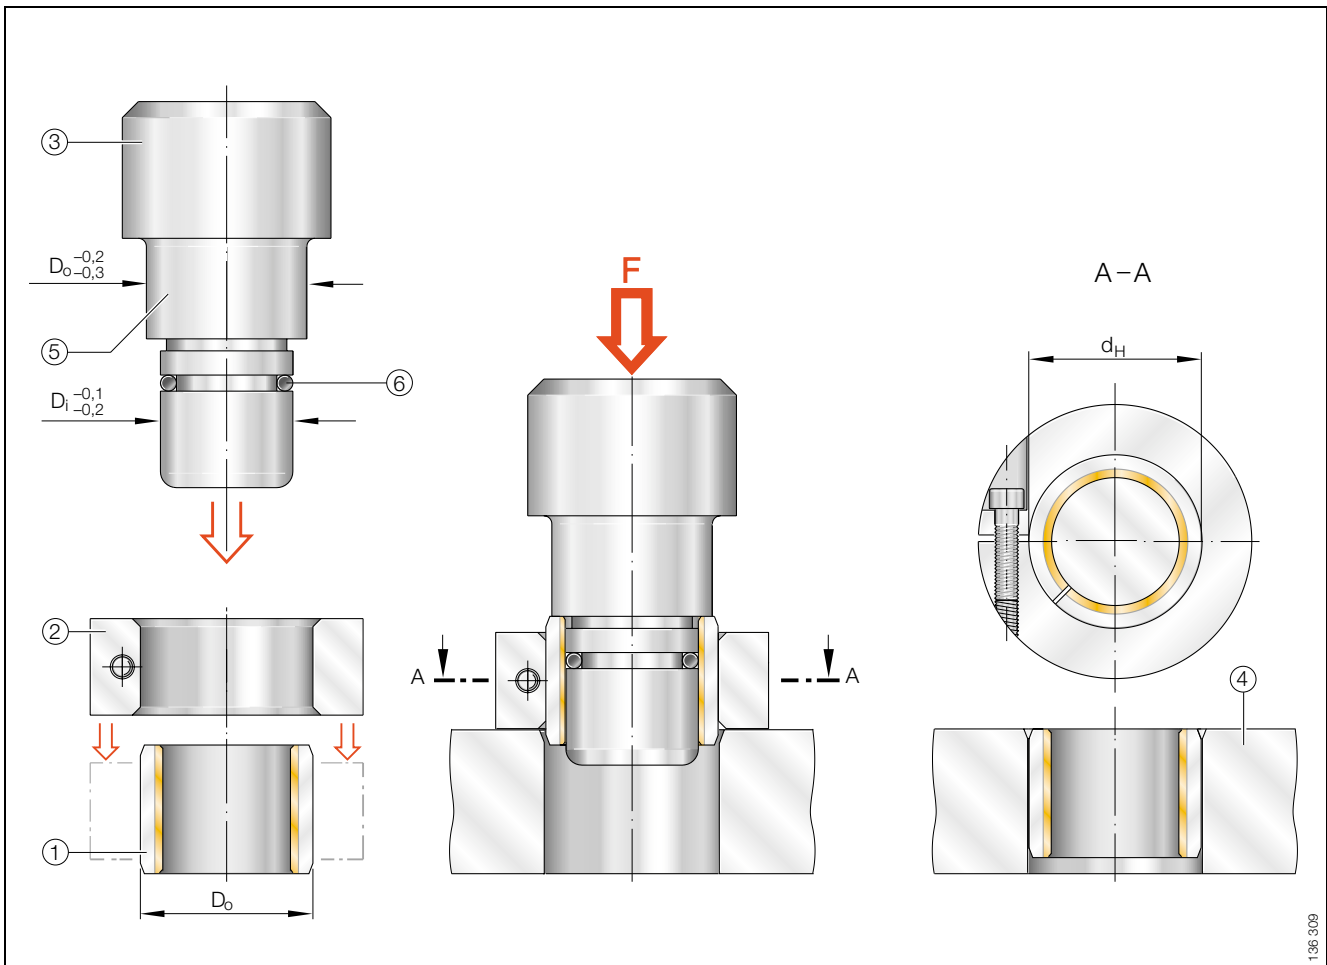

Figure 24 · Pressing in of bushes, $D_o \geq 55$ mm, with auxiliary ring
- press in using arbor with auxiliary ring according to Figure 24, page 31.